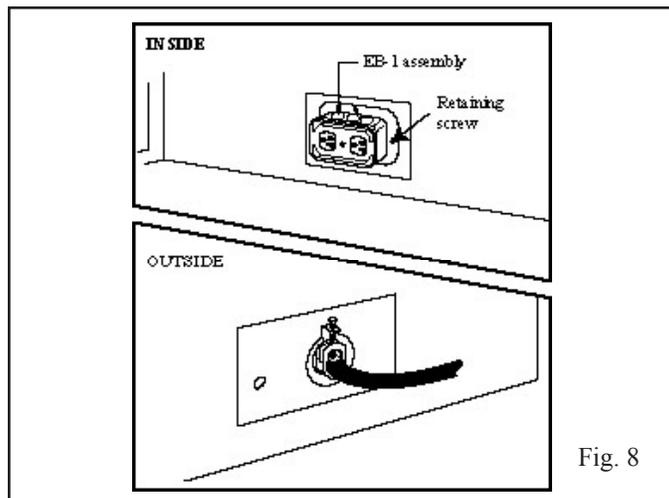

Fig. 8
1. Unscrew the retaining screw from the EB-1 base plate, Fig. 8 and remove the EB-1 assembly from the appliance